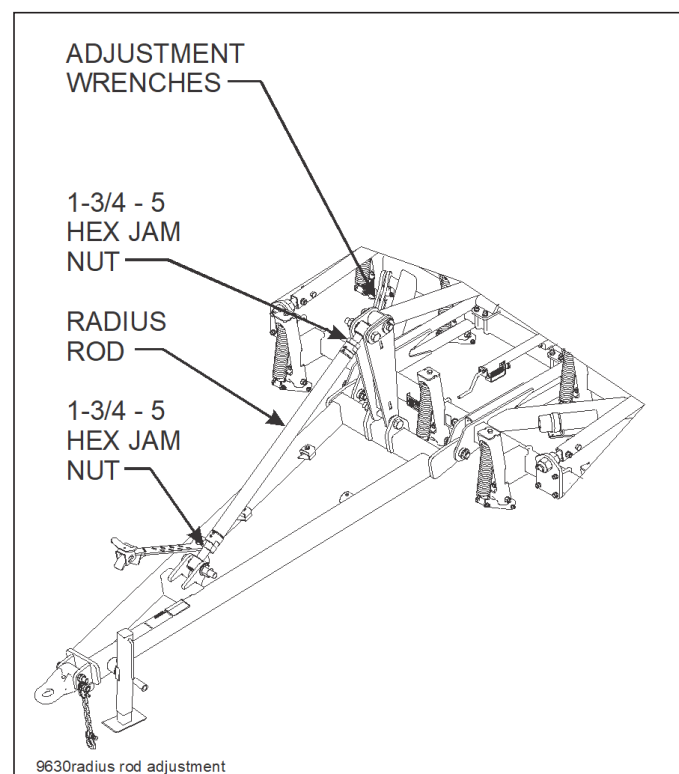
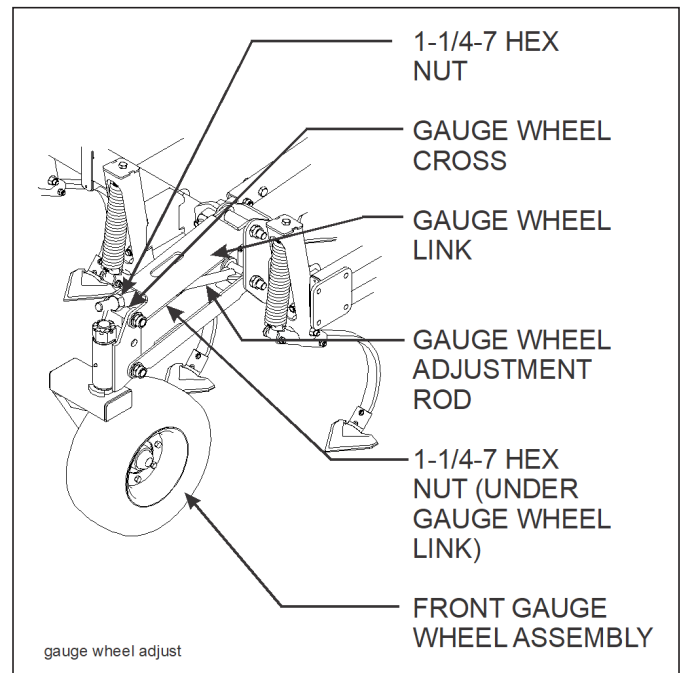

Figure 4-5: Radius Rod Adjustment
Figure 4-7: Gauge Wheel Adjustment
2. To adjust the Field Cultivator hitch height, loosen the locking jam nuts on each end of the adjustable radius rod located above the hitch See Figure 4-5. Wrenches are stored on the center frame to make this adjustment. Extend or retract the radius rod to obtain the desired hitch height.
3. To adjust the gauge wheel depth, loosen and adjust the nuts on each side of the gauge wheel cross See Figure 4-7. A wrench is provided on the implement for this adjustment See Figure 4-5. All other connections should remain tight. Securely tighten the adjusting nuts when complete. All gauge wheel assemblies should be set the same. Verify adjustment by measuring the length of the bolt centers of the gauge wheel adjustment rod.